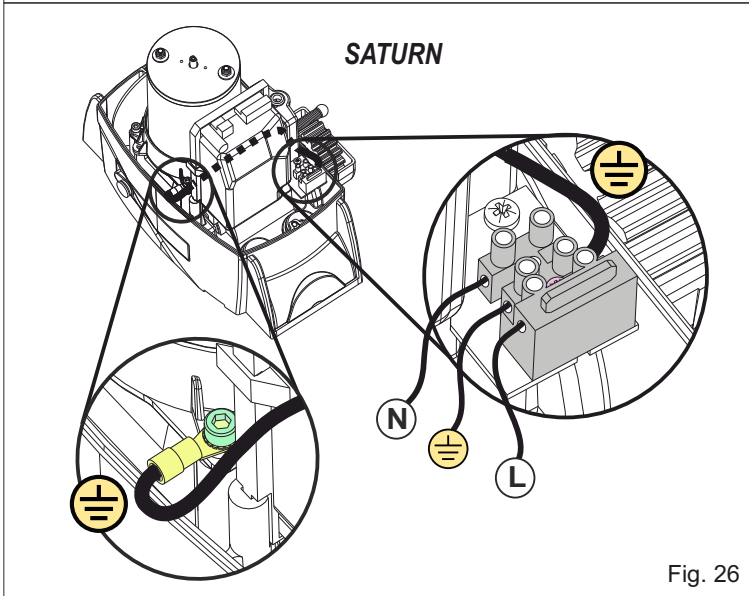

Fig. 26
12.1. Before connecting the operator, ensure that it is earthed, as shown in Fig. 26 or Fig. 27, depending on the model in use.